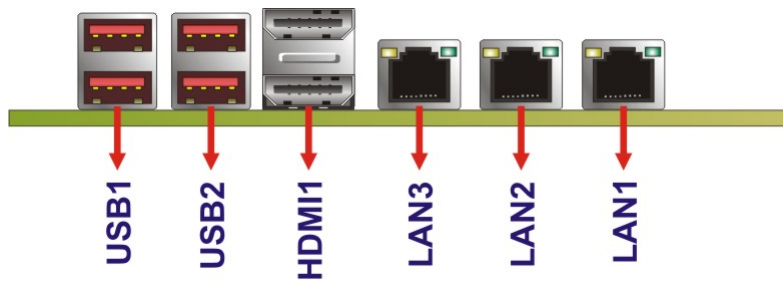

Figure 3-23: External Peripheral Interface Connector
Figure 3-23 shows the WAFER-ULT5 external peripheral interface connector (EPIC) panel. The EPIC panel consists of the following:
- CN Location:** See **Figure 3-23**